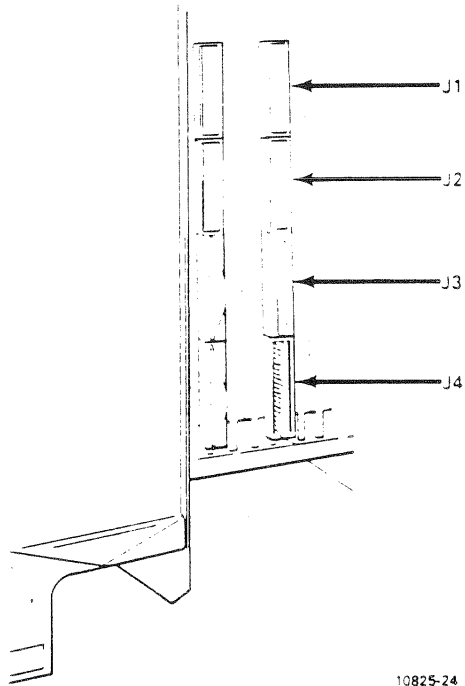

Figure B3
- All communication cables, except the multiline cable, are plugged into the J4 connector (Figure B3). The other three connector locations are covered by plastic tabs. Do not remove these tabs.